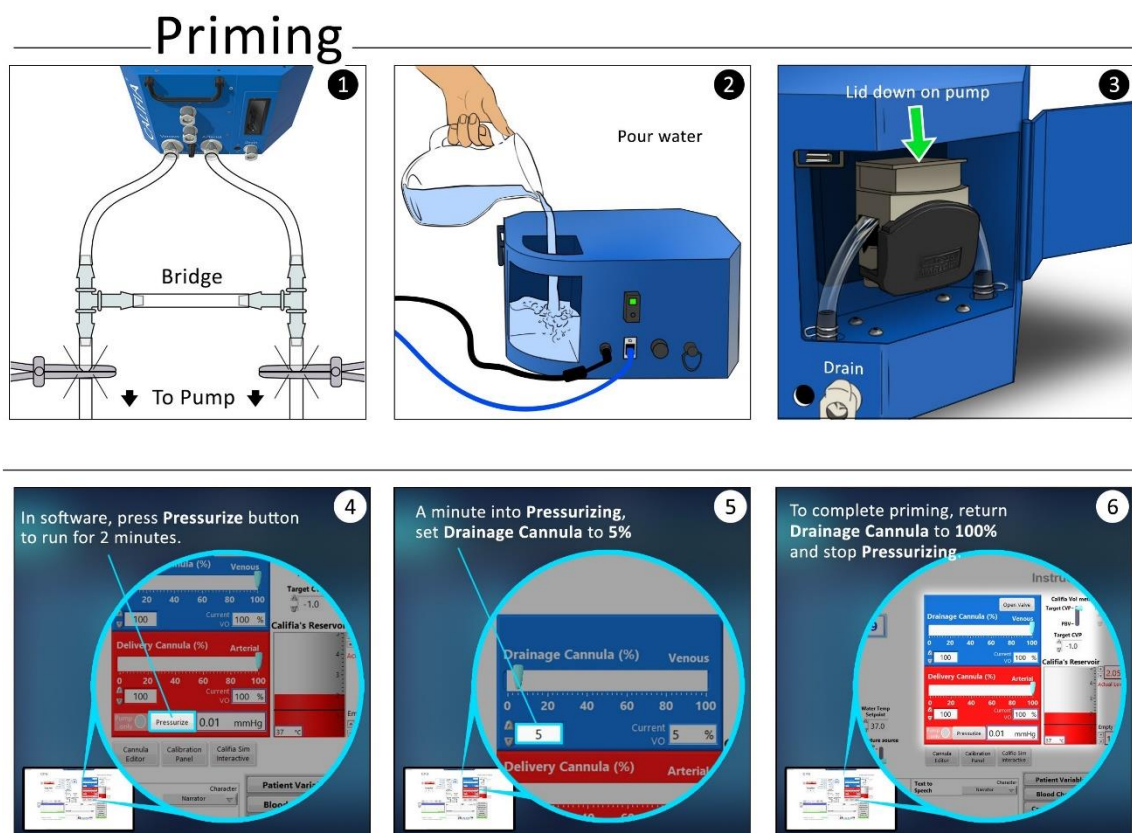

Figure 3.1 CPM priming process
Prepare the CPM with tubing connections as shown in Figure 3.1 image ①.
Refer to Figure 3.1 to prime the CPM.